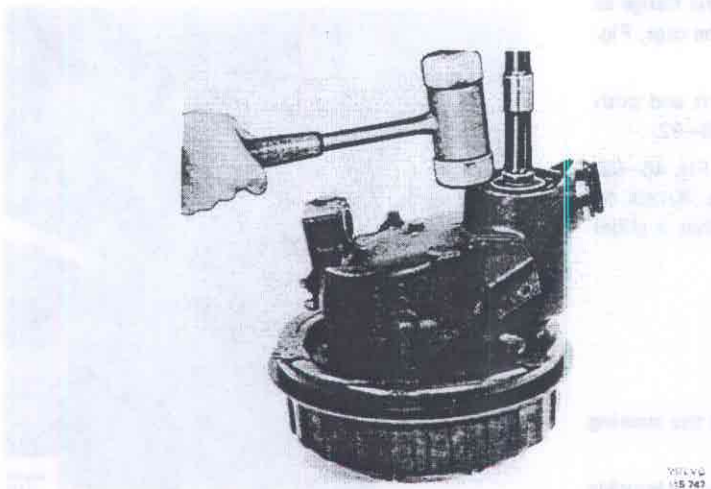

Fig. 46-96. Removing the drive shaft
5. Remove the wheel carrier from the vice. Hold the drive shaft upwards, Fig. 46-96, and with a plastic mallet knock on the wheel carrier housing, see Fig. 46-96, so that the shaft pin releases from the gear wheel in the housing.